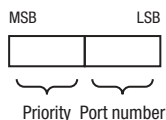

Figure 45: Port Identifier
- ▶ When multiple paths with the same root path costs lead from one bridge to the same bridge, the bridge further away from the root uses the port identifier of the other bridge as the last criterion (see figure 45). In the process, the bridge blocks the port that leads to the port with the numerically higher ID (a numerically higher ID is the logically worse one). When 2 ports have the same priority, the port with the higher port number has the numerically higher ID, which is logically the worse one.